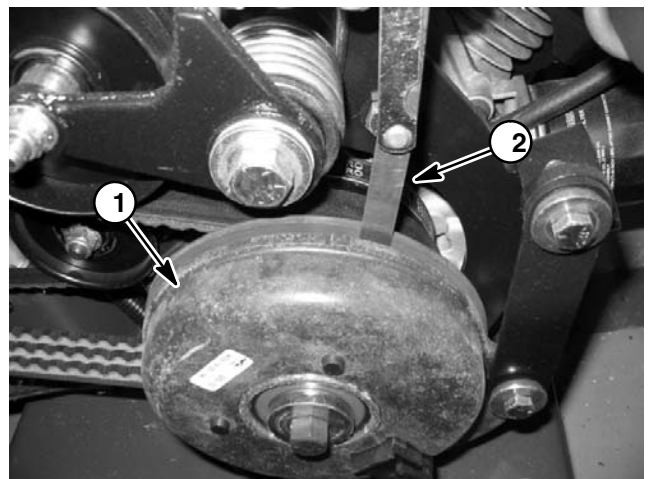

Figure 36
7. Measure gap between clutch rotor and armature (Fig. 36). Gap should be less than .125" (3.18 mm). This gap is not adjustable and increases as clutch components wear. If gap exceeds .125" (3.18 mm), replace clutch.